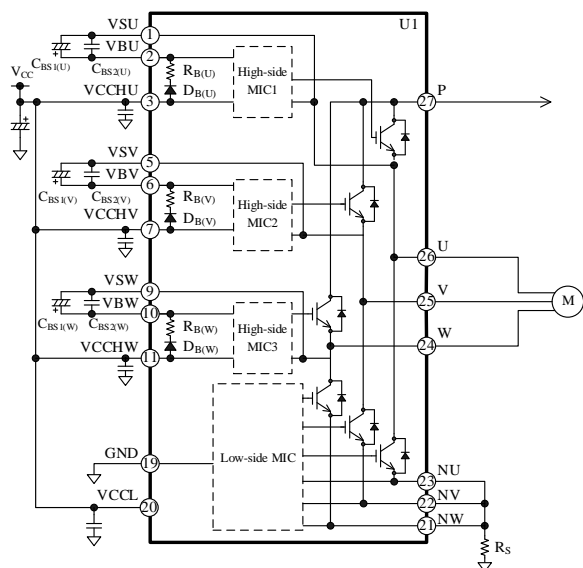

Figure 14-1. Bootstrap Circuit
As Figure 14-1 shows, bootstrap diodes, D_{B(x)}, and current-limiting resistors, R_{B(x)}, are internally placed in series between the VCCHx and VBx pins. Time constant for the charging time of C_{BS1(x)}, τ , can be computed by Equation (3):